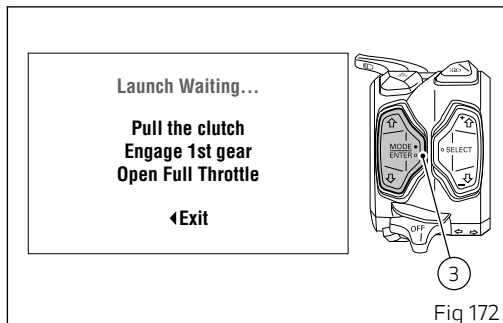
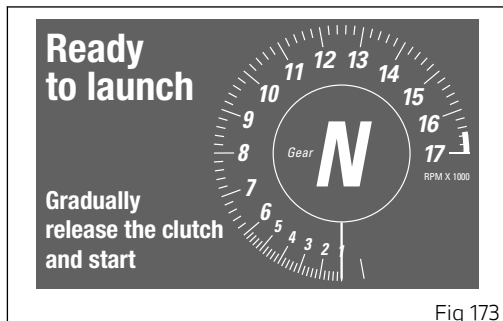

Fig 172
Fig 173
Once the DPL level is set, the instrument panel shows the wait screen for 2 seconds (Fig 172): during this time, if you press the ENTER button (3), the wait phase is interrupted and the instrument panel displays the main screen and sets the DPL to OFF. Then the instrument panel shows the "assisted launch" screen (Fig 173). After the assisted start, the instrument panel sets the DPL to OFF and shows the main screen again. The DPL is set to OFF by default by Ducati.